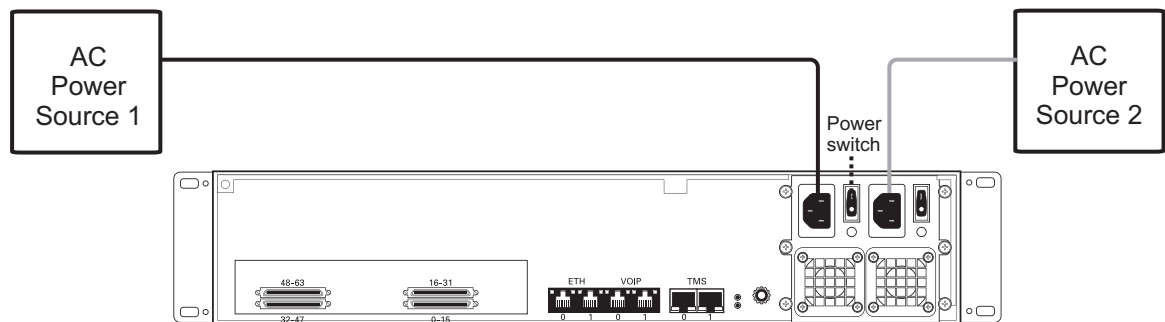

Figure 2.12 AC Power Connection
1. Connect an AC power cable between the AC connector of the TMG7800 Telecom Unit and an AC supply. See figure 2.12 on page 27.
**Note** If the TMG7800 Telecom Unit features a second power supply and it is not connected to an AC power source, press the green button located at the rear of the unit to disable the audible alarm. See figure 2.12 on page 27.